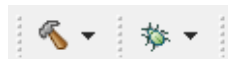

Figure 27: *Code Composer Studio* build and debug buttons
5. Build the project in *Code Composer Studio* by clicking **Project** → **Build all** or by clicking on the **Hammer** symbol as seen in Figure 27 at the top of the screen. Check for errors while building in the console at the bottom of the screen.
6. If your target is connected to the computer click **Run** → **Debug** or click on the *Bug* symbol as seen in Figure 27 at the top. The program is now transferred to the target and can be started with the **green arrow** button at the top.